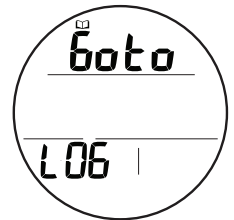

Fig. 41 - LOG LEAD-IN
**Log Lead-in**, information includes (Fig. 41):